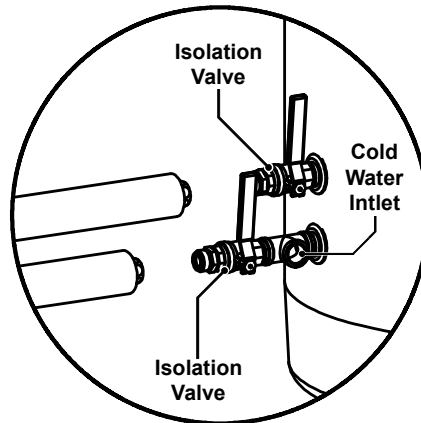

Fig. 6
- Disconnect the piping from the heat pump (as shown in Fig. 6) and allow the water to drain from the pipes.